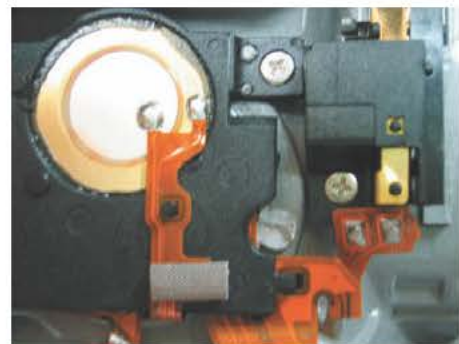

Fig. 059
- (2) Attach the gasket to the back of the Top Cover Ass'y as shown in Fig. 059.
- (3) Insert the connector to the end, making sure it is in the correct direction.